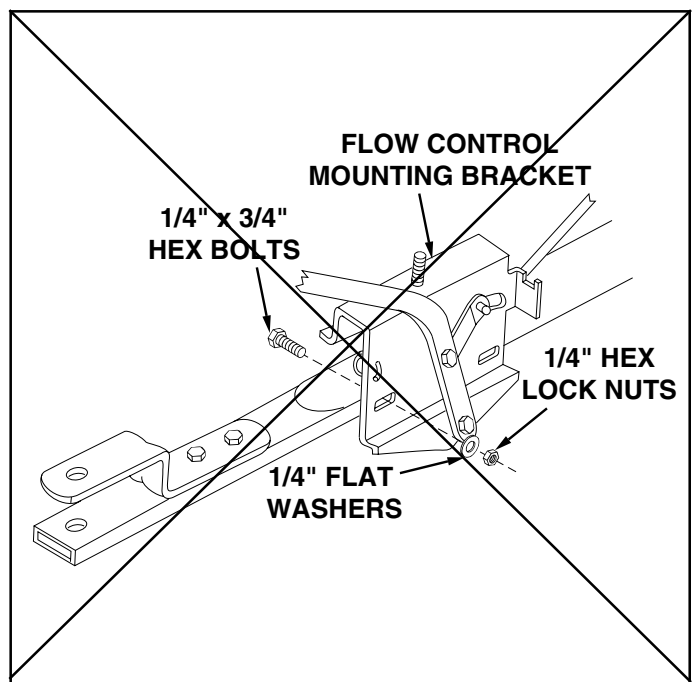

FIGURE 13
- Assemble flow control mounting bracket to the hitch tube using two 1/4" x 1-3/4" hex bolts, two 1/4" flat washers and two 1/4" hex lock nuts. See figure 13. **DO NOT TIGHTEN AT THIS TIME.**